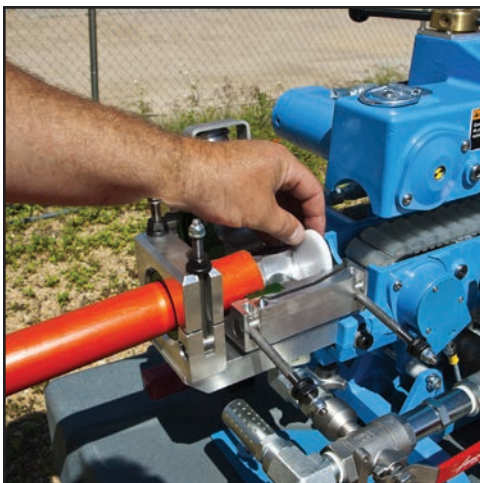

Figure 26. Installing Seal Disk
8. Place Seal Disk in Venturi slot. (Figure 26).